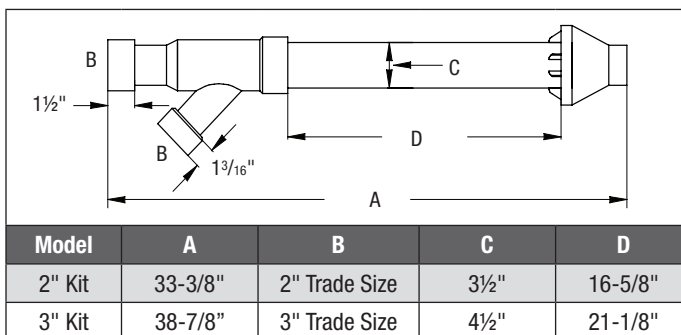

Figure 3.
- Refer to Figure 3 for concentric vent dimensions.